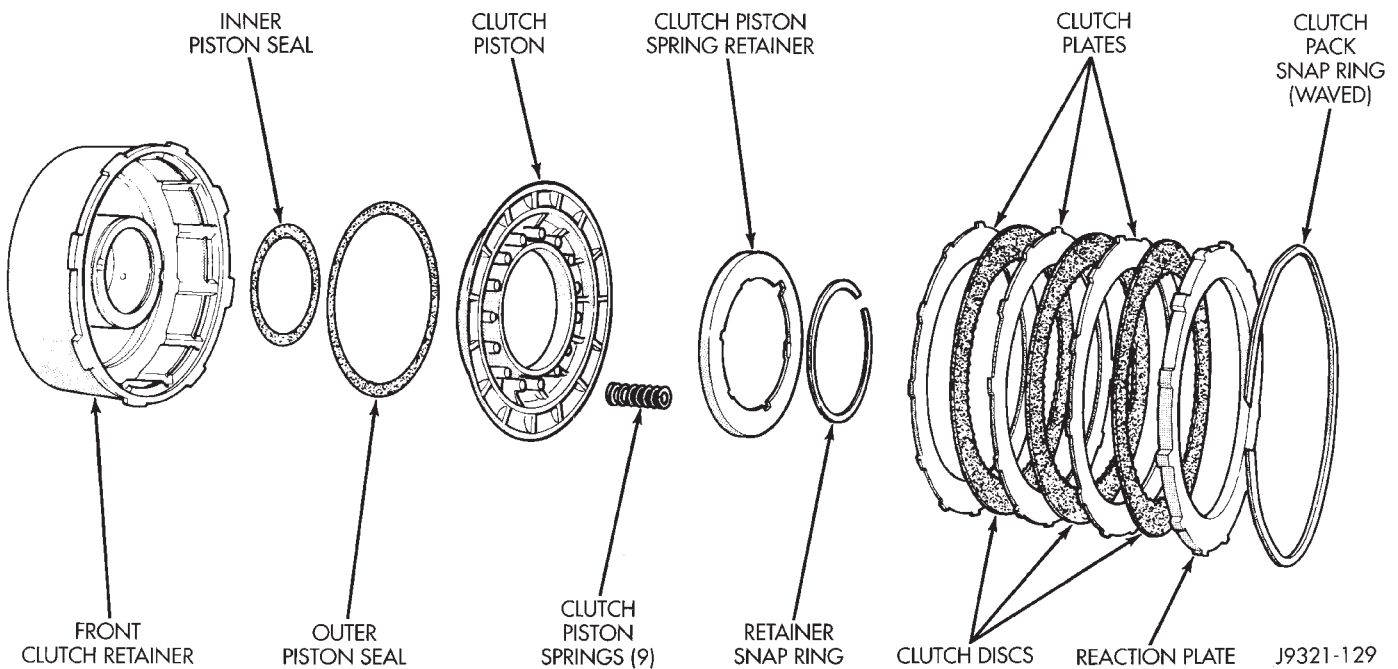

Fig. 61 46RH Front Clutch Components (3-Disc Clutch Shown)
- (1) Remove waved snap ring and remove reaction plate, clutch plates and clutch discs (Fig. 61). **Note number of plates and discs in clutch pack for**